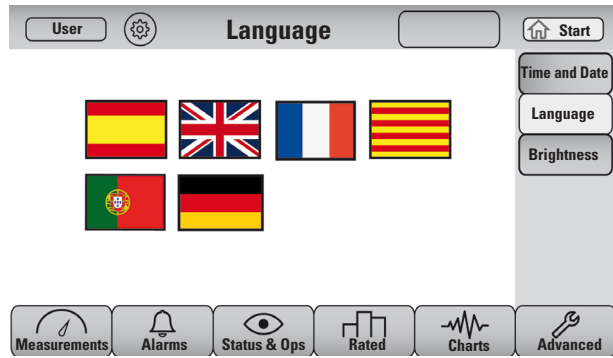

Fig. 33. Language Screen
3. Select the required language, see Fig. 33. From this moment all the menus, parameters and data will be displayed in the selected language.